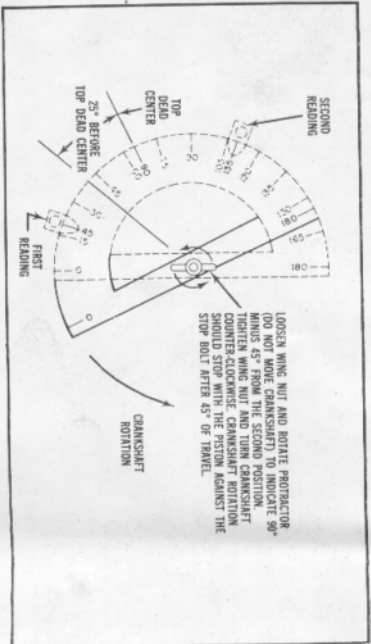

FIGURE 15
10. To make the 90 degree point on the protractor wheel top dead center, loosen the wing nut (piston is still against the stop) and move the protractor from the second degree reading to the 45 degree point on the protractor. Re-tighten the wing nut. Re-check for 90 degree top dead center by rotating the crankshaft counterclockwise to the stop. This reading should also be 45 degrees (Figure 15).